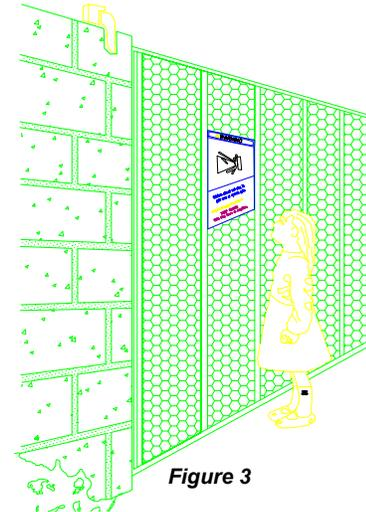

Figure 3
- For ornamental “GRILL TYPE” GATES (or any other type of open gate where a handhold or toehold may be achieved), injuries may occur when people put arms through the openings or children “ride” the gate by standing on the chain and holding on to the gate. THIS POTENTIAL HAZARD CAN BE MINIMIZED BY INSTALLING A GUARD OR MESH SCREEN ON THE GATE. Allstar strongly recommends the entire gate and adjacent fence area the gate covers when open be meshed or guarded such that a handhold or toehold cannot be achieved. See Figure 3. At a minimum, for horizontal slide gates, the mesh must provide a guard from the bottom of the gate to a minimum of 4 feet high and be constructed such that a 2-1/4 inch diameter ball cannot pass through. The portion of the adjacent fence that the gate covers when fully open must be similarly guarded at minimum. See Figure 3.